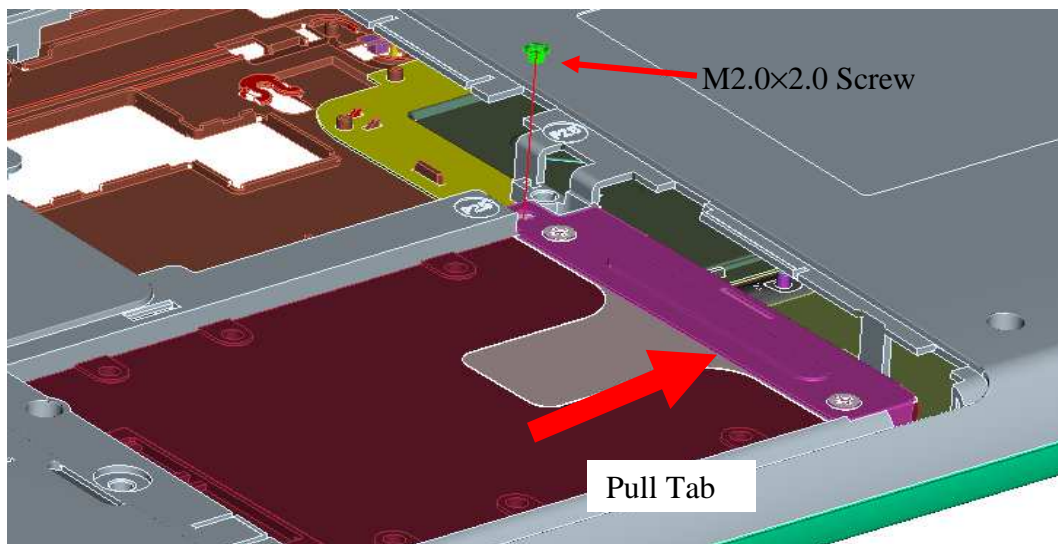

Figure 4-5-1 Use the pull tab to disconnect the HDD
3. After remove the Ram Door and Optical Disk Drive, release the following screws securing the HDD. (See Figure 4-5-1)
4. Use the pull tab to disconnect the HDD toward the arrow direction from the HDD connector on the system board and lift it up from the base. (See Figure 4-5-1)
8. Secure the HDD drive with the following screw. (See Figure 4-5-1)